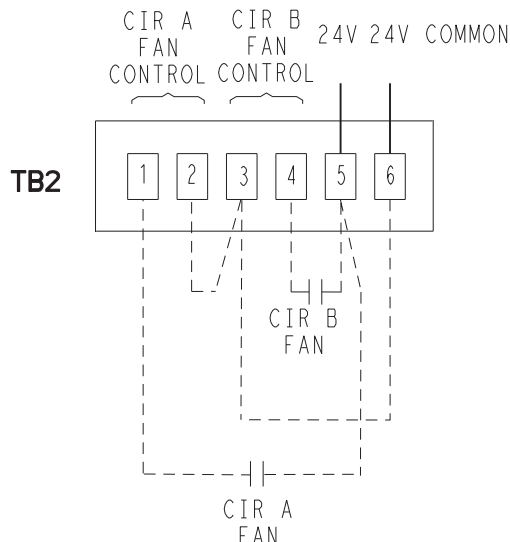

Fig. 30 — 09RC050-230 with Dual Control Circuit with Externally 24V Power
- Install field-supplied jumpers between terminals 2, 3 and 6 of TB2. See Fig. 30.